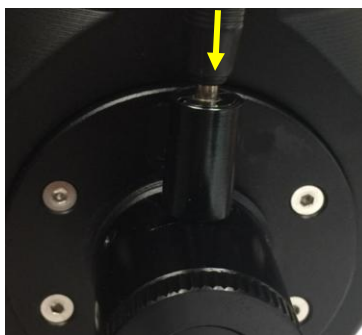

Figure 22. Connect polar scope LED
- (1) Level the CEM26 mount and set it to the Zero Position. Make sure the telescope optical axis is parallel to the polar axis (R.A. axis) of the mount. If using a finder scope, adjust it to be parallel to the telescope optical axis.
- (2) Remove both the polar axis cover. Thread the polar scope LED to the Polar Scope. Connect one end of the polar scope power cable to the illumination LED and the other end to the DC12V output located on RA Unit (Figure 22).
- (3) Turn the mount power on.
- (4) Adjust the polar scope dial to rotate one of the major ticks at the top.
- (5) Use the Hand Controller (**MENU** => **"Alignment"** => **"Position of Polaris/SigmaOct"**) to display the current position of Polaris on the LCD screen, as indicated in the left side of the figure below. For example, June 22, 2014, 20:19:42 in Boston, US (long. W71°08'50" and lat. N42°30'32", UTC - 300 min,) the Polaris Position is 0h45.8m and 40.4m.